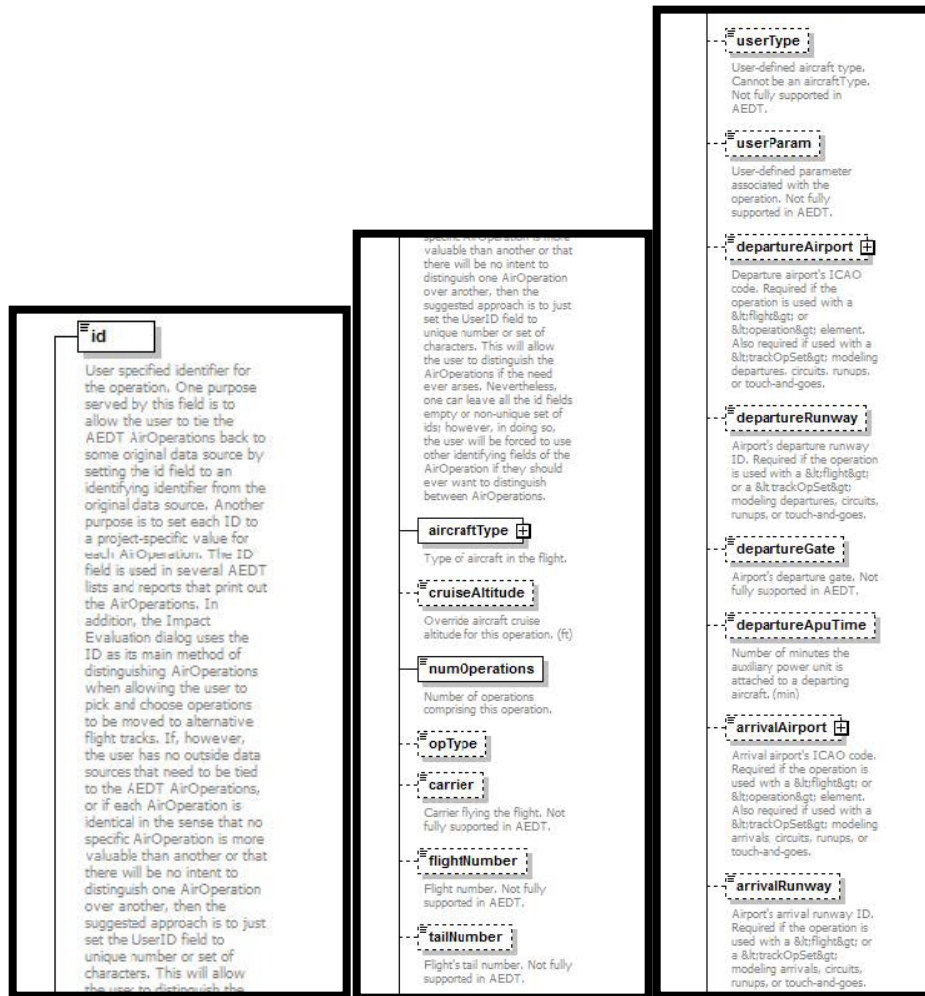
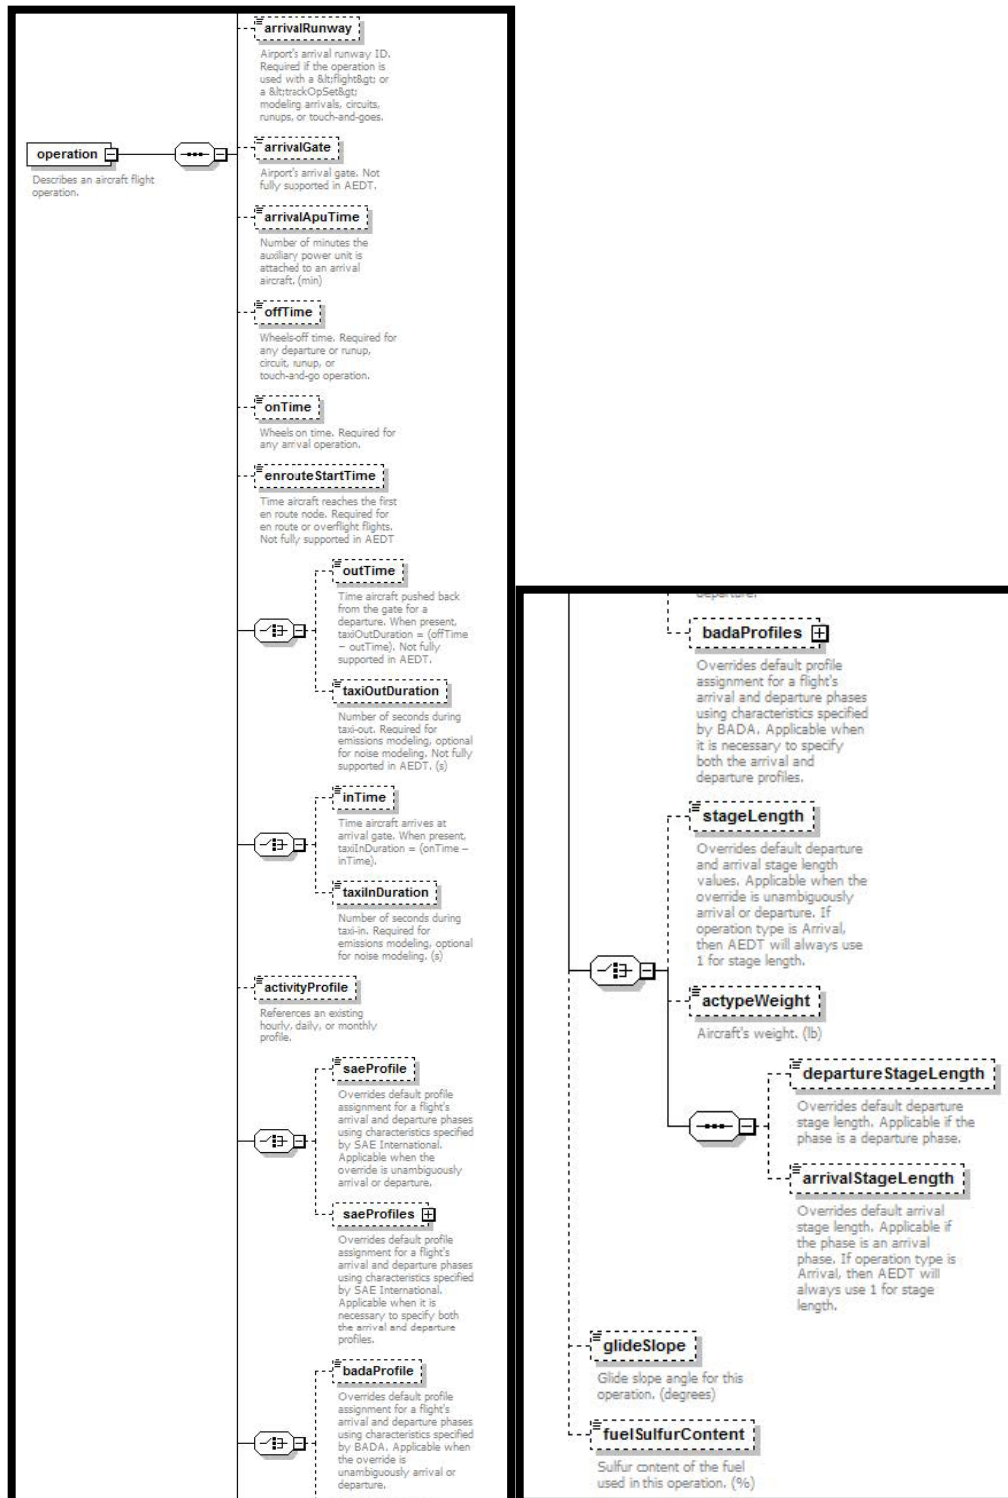

Figure 74. ASIF element – operation. 1 -> 2 -> 3
Figure 75. ASIF element – operation. 4 -> 5
16. AsifXml/study/scenario/case /operation (Figure 74 and Figure 75):